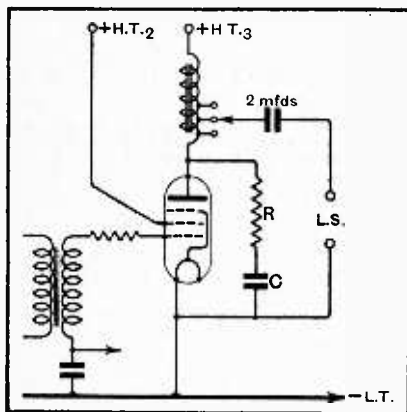

Fig. 2.—Modified output circuit of "The Wireless World Two," allowing the use of a standard loud speaker.
Matters are arranged as in Fig. 2, which shows that the usual feed condenser is connected in series with the loud speaker. Suitable values for the tone-correcting condenser (C) and resistance (R) are, respectively, 0.002 mfd. and 50,000 ohms, although some modification of these values may be necessary in certain cases. It should not be forgotten that the characteristics of high-efficiency pentodes are changed to a great extent if one varies their working conditions; for example, a change in output transformer ratio may be called for if a considerable increase is made in anode voltage.